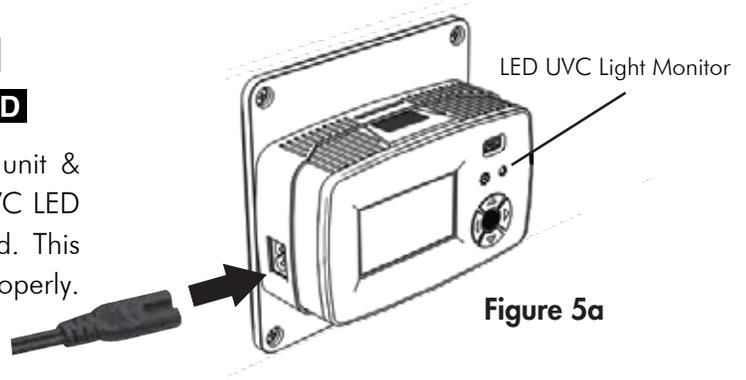

Figure 5a
Step 5a) – For 120 Volt - Install power cord in unit & connect to 120 volt Power. Check that the blue UVC LED light monitor on the front of the unit is illuminated. This indicates that the internal UVC lamp is operating properly. (Figure 5a)